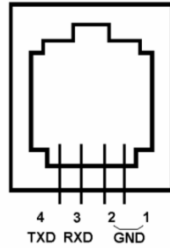

Figure 5. Serial port pin-out on an 8407+ hand controller
- Serial port (*i.e.*, RS232 port): connect the HC to a Computer for HC firmware upgrade via a RS232-RJ9 cable. The pin-out of the serial port is shown in Figure 5.